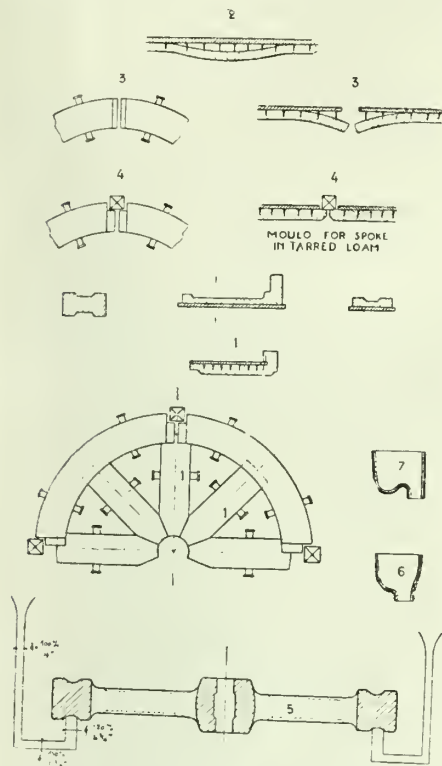

Fig. 3—Details for Flywheel moulding.
For the arms, a pattern is made in tarred loam. The slab follows the contour of the arm, the rim, and the hub. These slabs are worked up in a very short time (Fig. 3, No. 1). After remaining a night in the drying stove, the first arm is lifted from its pattern, and the second is made, and so on. By this process two moulders and one coremaker can easily finish a 20-ton flywheel in three weeks and a 30-ton flywheel in four weeks, the comparison being:—
dried by portable hot-air mould driers. As a result, the top part of the mould (the parts in loam) absorbed a large part of the moisture from the lower portion and became spongy; some of the thin layers of loam buckled and formed air pockets (Fig. 3, No. 2), and were washed away by the metal; the blacking did not stick to the spongy surface, and thus the casting had a rough and scabbed appearance.
A second trouble occurred at the joints of the loam slabs, often caused by slow pouring. The expansion of the sand on the periphery of the wheel, due to radiation from the metal, caused crushing at the joints and formed gross defects at these points. It often happened also that the slabs, half an hour after pouring, having absorbed the maximum amount of heat from the casting and expanding several inches, broke the sand at the joints still further, which forced its way into the pasty metal and thus formed a large cavity at each joint (Fig. 3, No. 3). To cure these serious defects, we proceeded in the following manner:—(1) It is sufficient to dry the bottom part mould in the early stages, perhaps the first day, or by the laborers of the night gang, covering the rim and arms with sheet iron; after blowing through hot air for seven or eight hours, the moisture is driven off, the sheets removed, and the assembling of the rim and arm slabs proceeded with; the mould drier is again used for about the same period; the loam part does not then receive the moisture from the sand. (2) The edges of the slabs at the joints are beveled, wedges are driven between them, iron to iron, and their expansion has then no effect on the joint. In addition, the speed of pouring, as we shall see later, only allows a slight expansion of the sand before the mould is completely filled (Fig. 3, No. 4).
It is well established that it is possible to pour a flywheel by using a system of expanding runners, or in other words a reduced pressure system (Fig. 3, No. 5). The author believes that a 20-ton flywheel ought to be poured in one minute, and he has often poured flywheels of 10, 12, and 15 tons in 44 to 50 secs.
In order to enable a large body of metal to be emptied into the reduced pressure runners, funnel-shaped runner bushes are employed (Fig. 3, No. 6), as skimming bushes similar to No. 7 will not take the metal quickly enough.